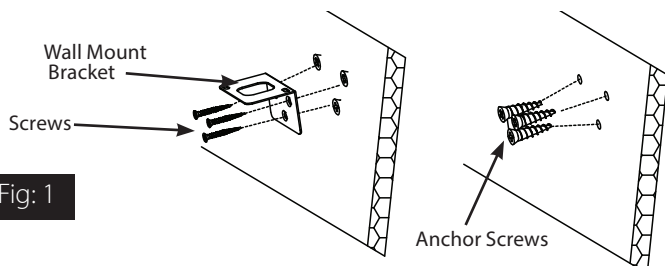
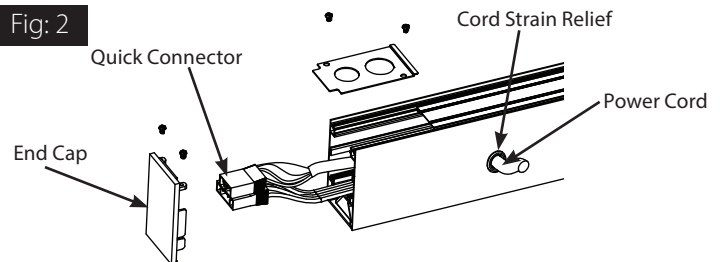

Fig. 2
Fig. 3
4. Remove **End Cap** and drill a 1/2" size hole on side of fixture for the **Power Cord** (Fig. 2) to align with the junction box (Fig. 3). Use provided **Cord Strain Relief** to protect **Power Cord**.
5. Feed the **Power Cord** (provided) through the installer drilled hole. Insert the wires into the respective **Quick Connector** captive terminal matching colors of existing installed wires as shown in Fig. 2.
7. See Fig. 3 if using a **Single Gang Box Cover Plate** with a **Grommet** to protect the **Power Cord**.